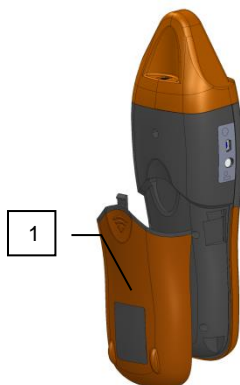

Fig. 16 Replacing the power supply.
- remove the battery cover 1 - Fig. 16,